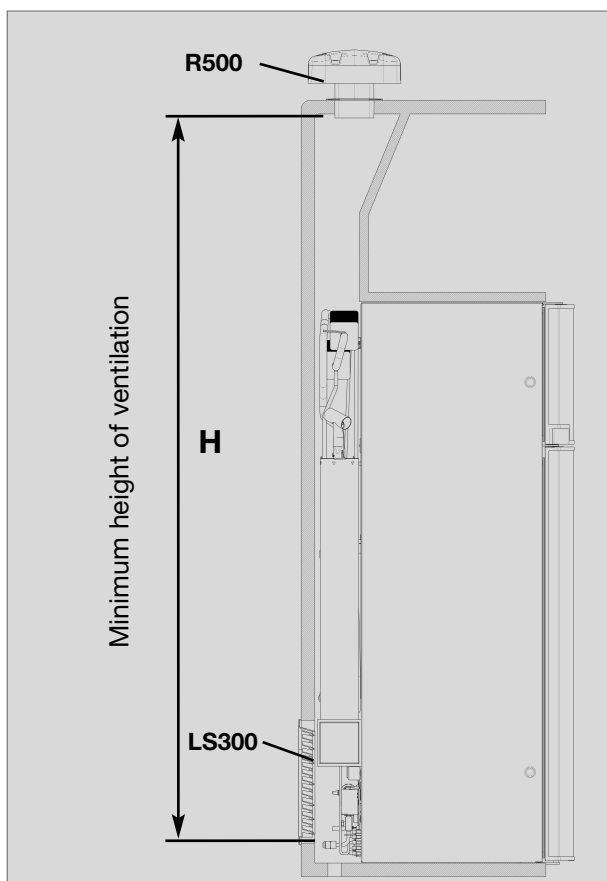
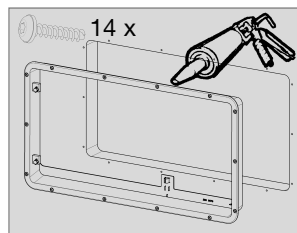

Fig. 13
Fig. 16
Ventilation is provided for the unit by means of two apertures in the caravan wall. Fresh air enters at the bottom, extracts the heat and exits through the upper vent grille (chimney effect). **The upper ventilation grille should be positioned as high as possible above the condenser (Fig. 13).** Install the lower ventilation grille at floor level of the vehicle (Fig. 16), allowing unburnt gas (heavier than air) to escape directly into the open air. **The gas burner must be located above the edge (1).**